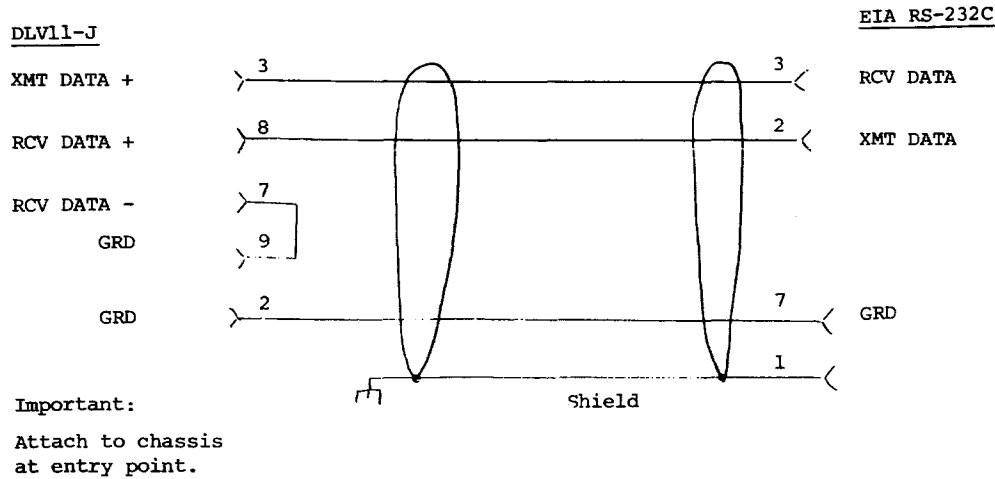

Figure 8 BC20N-05 "Null Modem" Cable
BC20N-05	5' EIA RS-232C null modem cable to directly interface with an EIA RS-232C terminal (2x5 pin Amp female to RS-232C female; see Figure 8).
2. To directly connect to a local EIA RS-232C terminal, it is necessary to use a null modem. To design the null modem into the cable, one must switch RECEIVE DATA (pin 2) with TRANSMITTED DATA (pin 3) on the RS-232C male connector as shown in Figure 8.